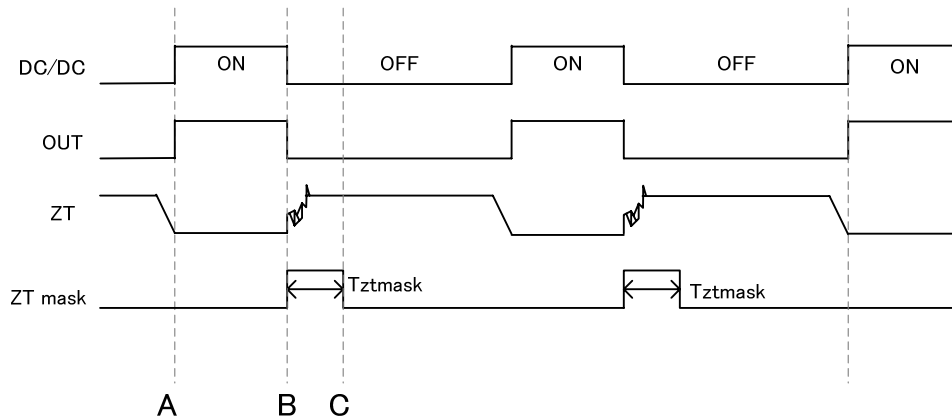

Figure 18. ZT trigger mask function waveform
(6) ZT trigger mask function (Figure 18.)